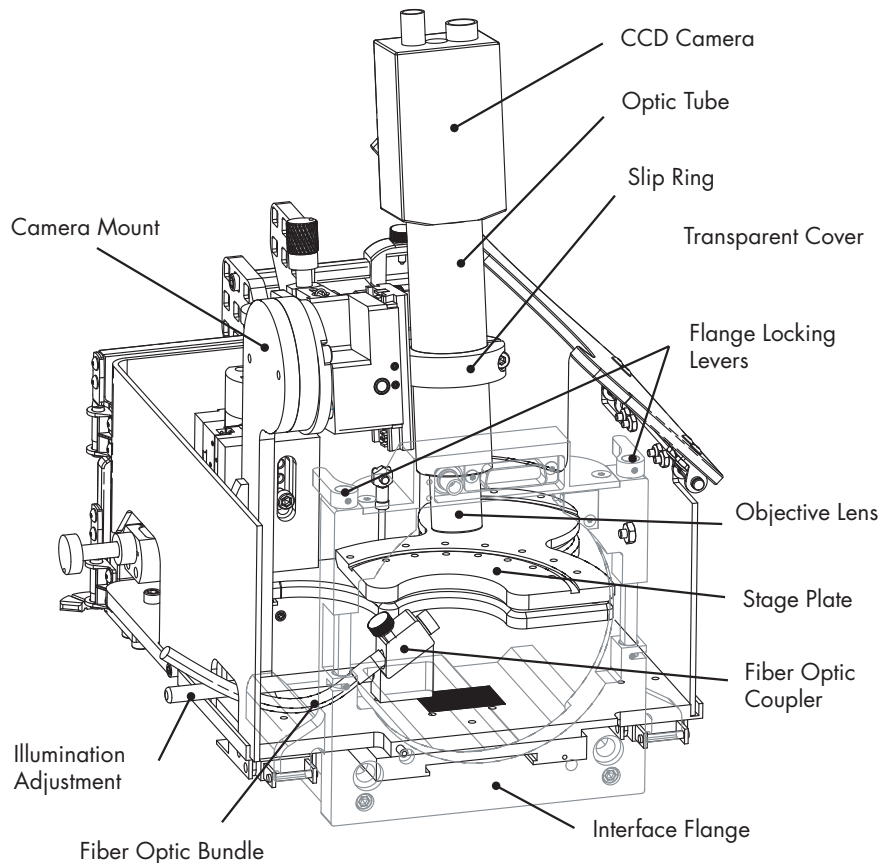

Figure 3.1B Instrument-side view of PicoView®
3. Slip one end of the fiber optic bundle through the opening on the right side of the PicoView housing and into the back end of the fiber optic coupler. The coupler holds a lens which focuses the illumination on the nanospray emitter and can be adjusted to accommodate for tip position using the Illumination Adjustment knob (see Figure 3.1B).